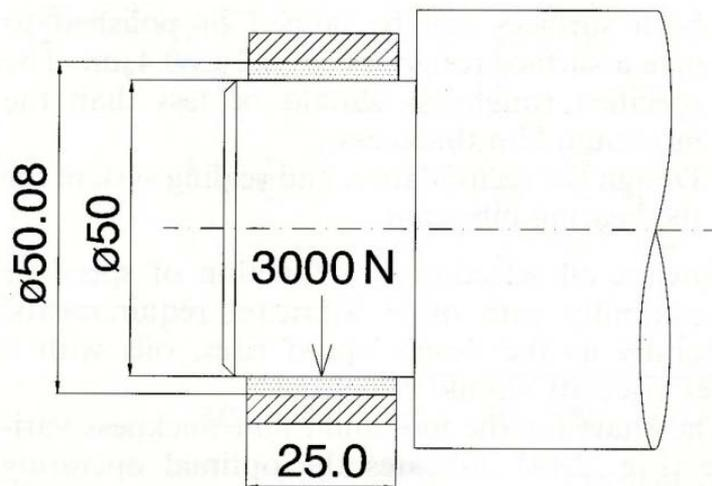

Fig. 2.12 Bearing design example.
As shown in figure 2.12(a), a 3m long bar is supported at the left end (B) by a 6 mm diameter steel wire and at the right end (C) by a 10mm diameter steel cylinder. The bar carries a mass $m_{a1}=200$ kg, and the mass of the bar itself is $m_{a2}=50$ kg.
A full journal bearing has a nominal diameter of 50 mm and a bearing length of 25mm (see Fig. 2.12). The bearing supports a load of 3000 N, and the journal design speed is 3000 rpm. The radial clearance has been specified as 0.04mm. A SAE 10 oil has been chosen and the lubricant supply temperature is 50°C.